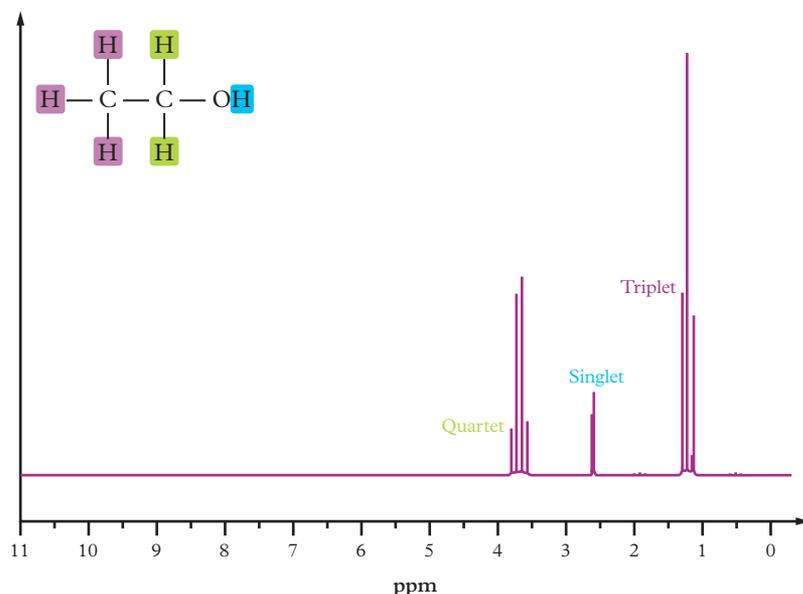
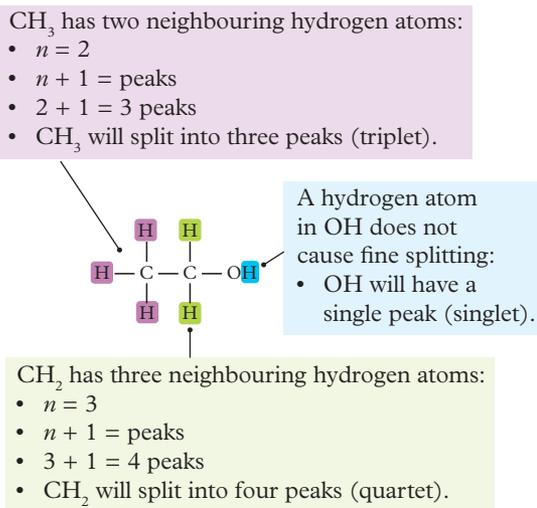

FIGURE 6 The $^1\text{H-NMR}$ spectrum for ethanol
FIGURE 7 Fine peak splitting calculations for ethanol
Let's apply what we have learnt by analysing the high resolution $^1\text{H-NMR}$ spectrum of ethanol (Figure 6). There are three main peaks and each of the three peaks is split into multiple finer peaks.
The number of fine peaks for ethanol shown in Figure 6 on the previous page are calculated below in Figure 7.
- Chemical shift: Because so many combinations of atoms exist, you might not always find an exact chemical shift from the data book that matches the shift on the spectrum. In Figure 7, the first chemical shift in the $^1\text{H-NMR}$ spectrum of chloropropane is at 1.4 ppm. This does not match any of the shift data, as R-CH_3 is listed as 0.9–1.0 ppm. This is okay, as we already know it is a $-\text{CH}_3$ from the peak area and splitting patterns. The next peak in the spectrum is at 3.5 ppm, which corresponds to the chemical shift in the data book for $\text{R-CH}_2\text{-X}$ ($\text{X} = \text{F}, \text{Cl}, \text{Br}, \text{or I}$). We can confirm that the second peak is CH_2Cl from the chemical shift.